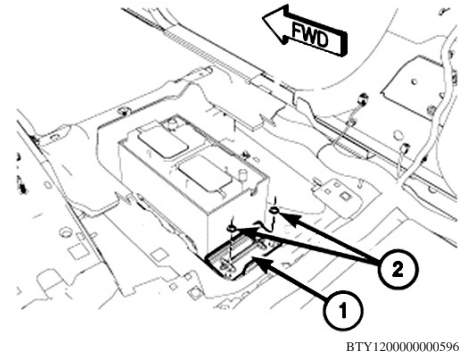

Fig. 2 Battery hold down removal
8. Remove battery hold down retainers (2), and remove battery hold down (1), **Fig. 2**.
2. Install battery hold down (1) into position, and install battery hold down retainers (2), **Fig. 2**.